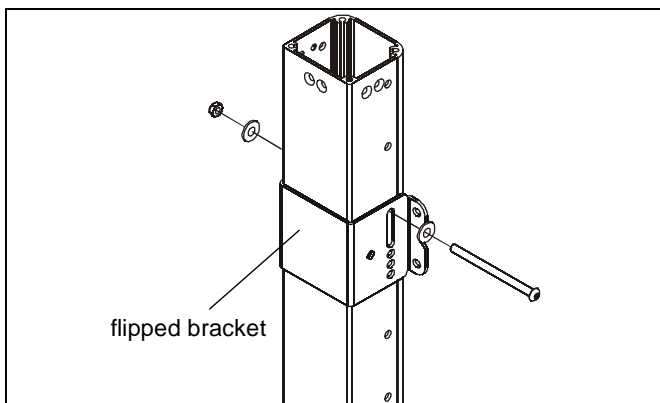

Figure 4
NOTE: Clamp brackets (B) may be flipped in order to use long slots for installation if necessary. (See Figure 4)